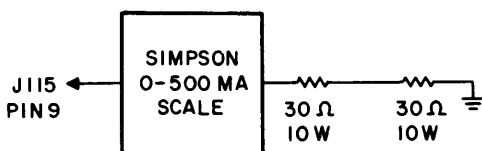

Figure 5-3. Power Supply, Test Setup
c. **POWER SUPPLY ALIGNMENT.** (See figure 5-3.) Perform the power supply alignment procedure as follows:
(1) With ac line cord removed; all cards disconnected from the unit; and STANDBY-ON switch to ON, measure resistance from J111-S to ground (1.5K-ohms minimum).
(2) Measure resistance from J103-14 to ground (200 ohms minimum).
(3) Turn STANDBY-ON switch to STANDBY and insert Z303 and Z304 into unit.
(17) Turn power switch to STANDBY position and METER switch to Q1 position. Adjust Meter Adjust potentiometer R142 (located at rear of METER switch) for equal readings on front panel meter and Simpson Model 260, as shown in test setup of figure 5-3.